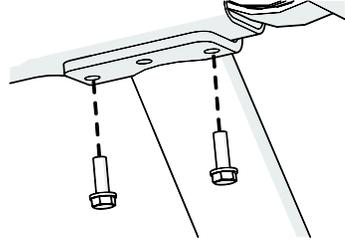

Figure 1
1. Place the upper end of the right-hand support against the right-hand side arm and insert two screws **2** (with washers attached) into the two holes underneath the side arm support bracket (see Figure 1). Partially tighten.